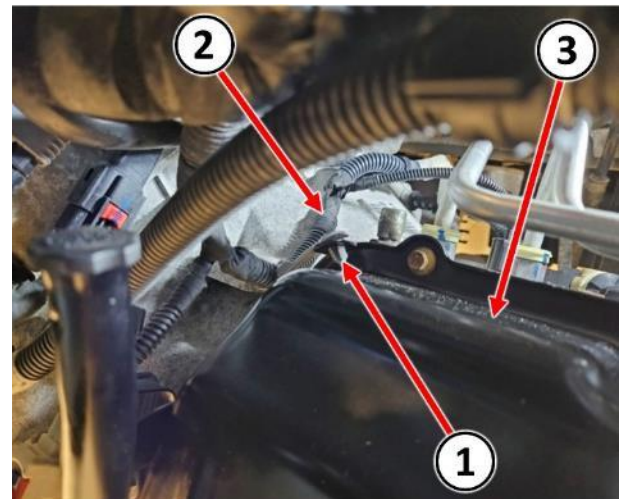

Figure 10 – Wire Harness Retainer
17. Release the retainer (1) securing the wire harness (2) to the valve body oil pan (3) (Figure 10).